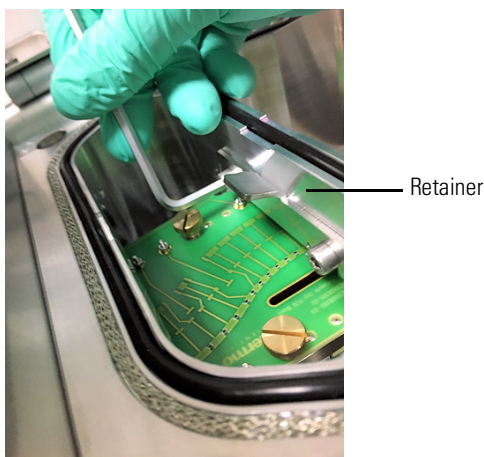

Figure 6. Loosening the screws of the bent flatapole
- Loosen the two 4 mm hex screws that attach the metal retainer to the side wall of the analyzer chamber. The screws remain in the analyzer chamber. See Figure 6.